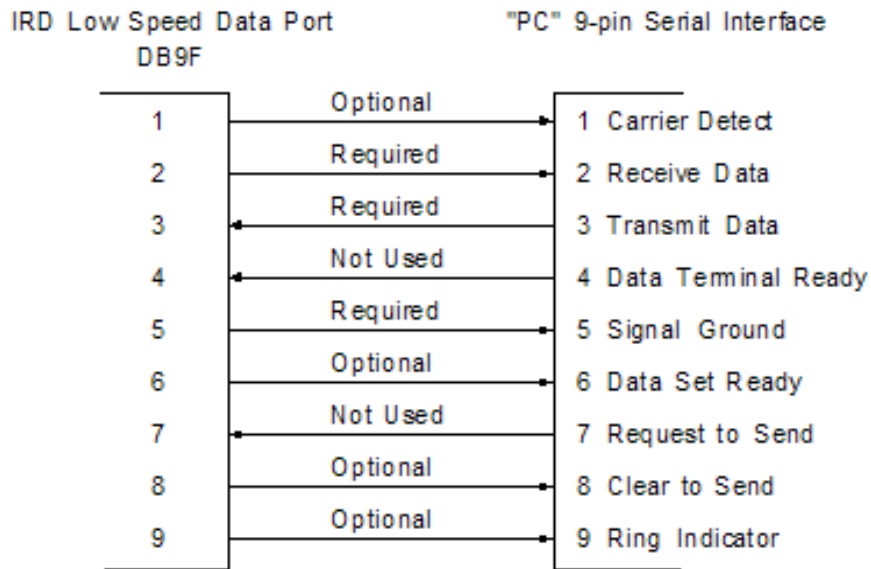

Figure 8-1. Low-Speed Data Port Pin Assignment Diagram
The connector type on D10, H10 and HR21P is a standard DB-9F or RJ22 (4 way/4 position jack). The pins for the DB-9F are as shown in Figure 8-1. The STB will use three (3) lines (L2-Rx, L3-Tx and L5-Grnd) for bi-directional full-duplex communications.